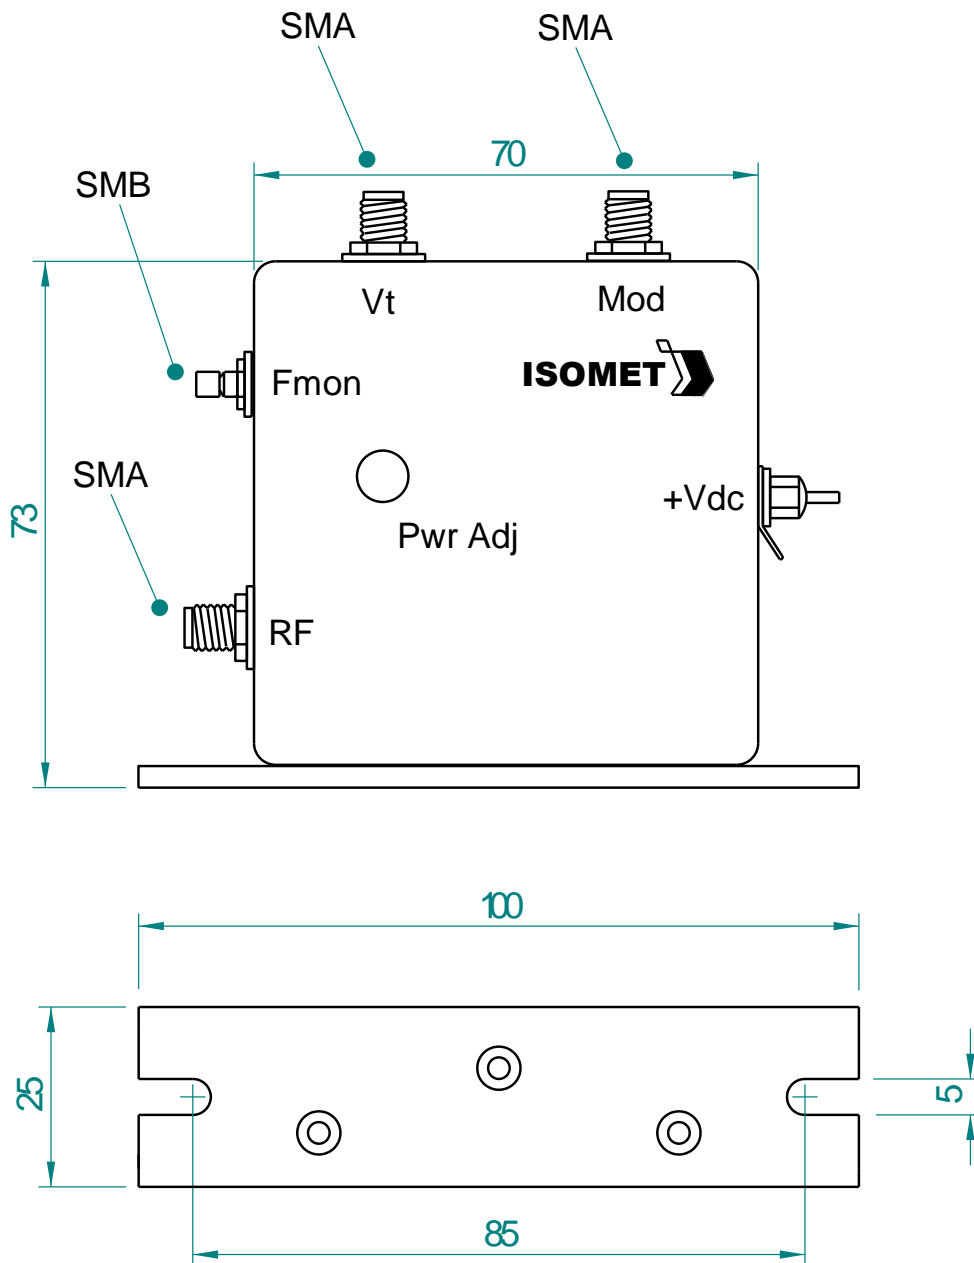

Figure 1, Driver Installation
The 620c series Modulator/Deflector Driver, figure 1, is a modular, swept-frequency RF power source specifically designed to operate with Isomet acousto-optic deflectors (scanners). The driver accepts a tuning voltage between approximately +0 volts and +10 volts and provides an RF output to the acousto-optic deflector at the tuned frequency. The driver also accepts an analogue modulating signal at baseband video frequency and provides a double-sideband amplitude modulated RF output to the acousto-optic deflector. Examples of popular driver specifications are listed below:
b. With no d-c power applied, connect the + 24Vdc line to the centre terminal of the feed-thru terminal as shown in Figure 1. DO NOT APPLY POWER UNTIL THE LOAD IS CONNECTED.